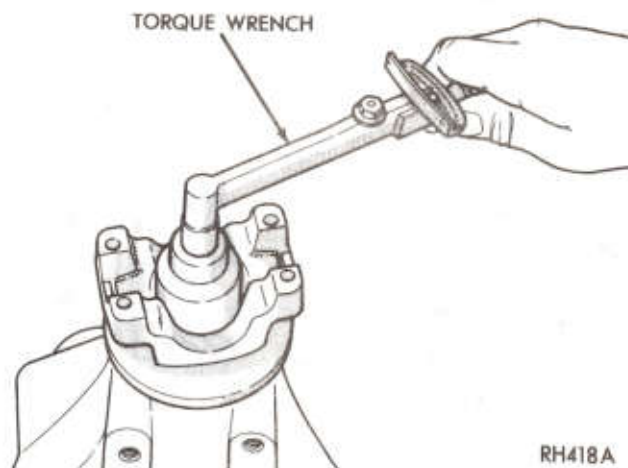

Fig. 38—Rotating Pinion to Seat Bearings
(4) Using inch-pound torque wrench, rotate pinion. Tighten yoke nut until it requires 10 in. lbs. (1.13 N·m) to rotate pinion (Fig. 38).
(5) Recheck pinion depth at this time by placing arbor and discs (small diameter discs for Model 60 axle and large diameter used on Model 70 axle) into cross bore of carrier. Place pinion height block on face of pinion. Set dial indicator on small step of height block. (High step of block is used for Model 70 axle). Set dial